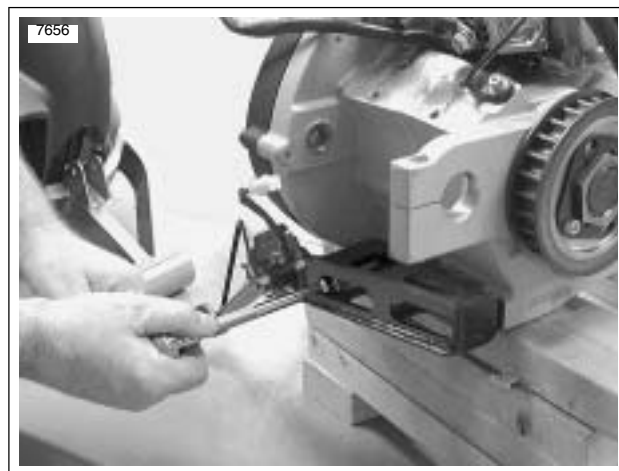

Figure 3-20. Sidestand Bracket
38. See Figure 3-20. Remove sidestand and bracket assembly. See 2.29 SIDE STAND.